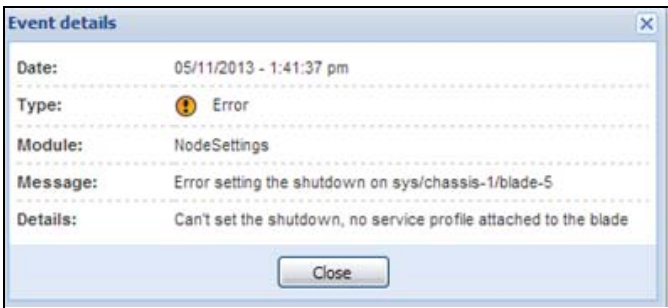

Figure 219. No Service Profile
- 1. You can't set a shutdown to a blade that doesn't have a service profile assigned (see Figure 219).